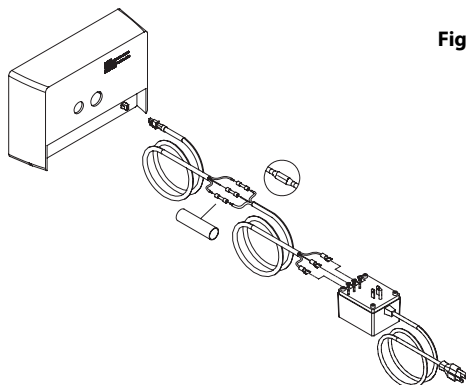

Figure 7
- Connect the wire to the transformer (see figure 7).
- Insert the other end of the wire, with the connector, into the back of the control box (see figure 7).
**Helpful Tip:** If the wire is too short, use the supplied connectors and shrink tubing to lengthen the wire (see figure 7).